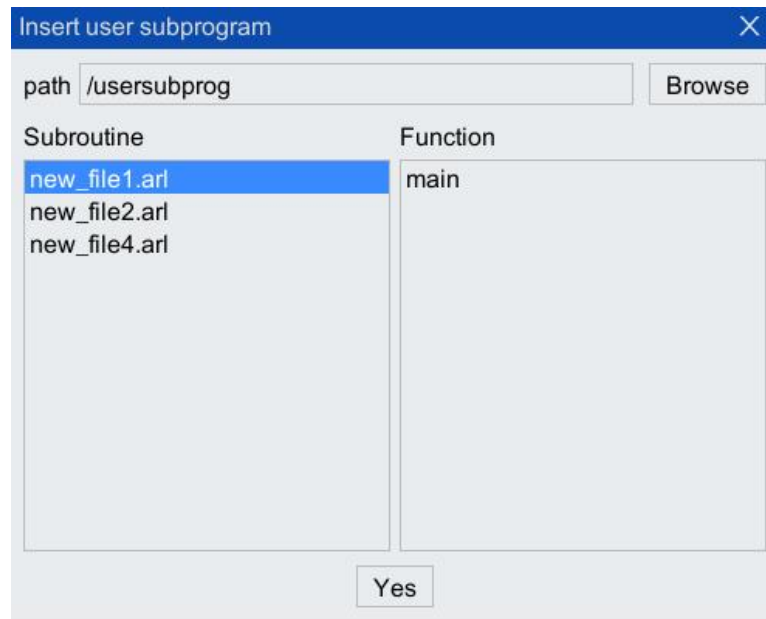
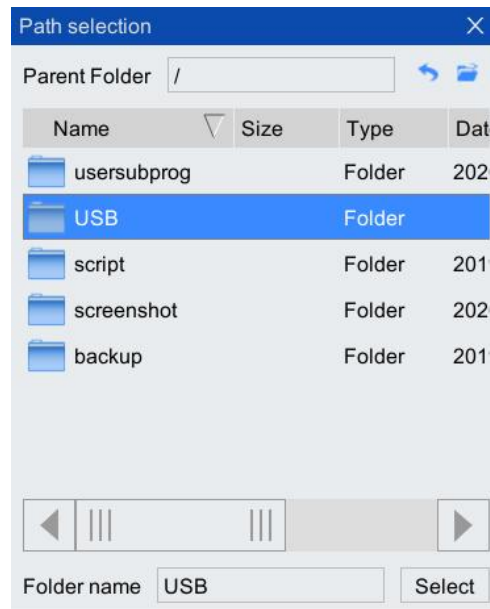

Figure 5-52 "Insert User Subprogram" interface
Figure 5-53 "Path selection" list box
- Step2. Click "Insert Instruction> User Subprog" option in the toolbar of the program editor to pop up "Insert User Subprogram" interface, as shown in Figure 5-52. Click <Browse> button, find and highlight the folder where the subprogram to be inserted is located in the pop-up "Path Selection" dialog box, and click <Select> button, as shown in Figure 5-53.